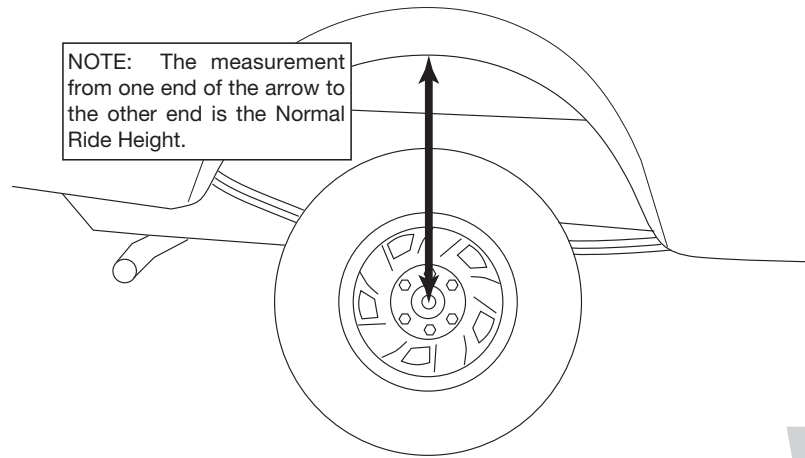

fig. 3
3. Measure the distance between the center of the hub and the bottom edge of the wheel well (Fig. 3). This is the normal ride height. Enter the measurement below: